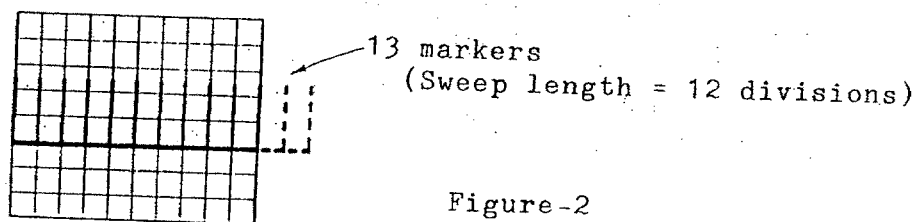

Figure-2
- Adjust A LENGTH (VR1 T-2744) as shown in Figure-2.